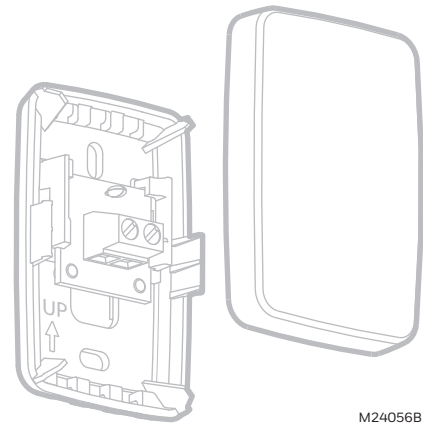

Fig. 81 Remove the cover.
1. Remove the cover from the remote sensor. See Fig. 81.